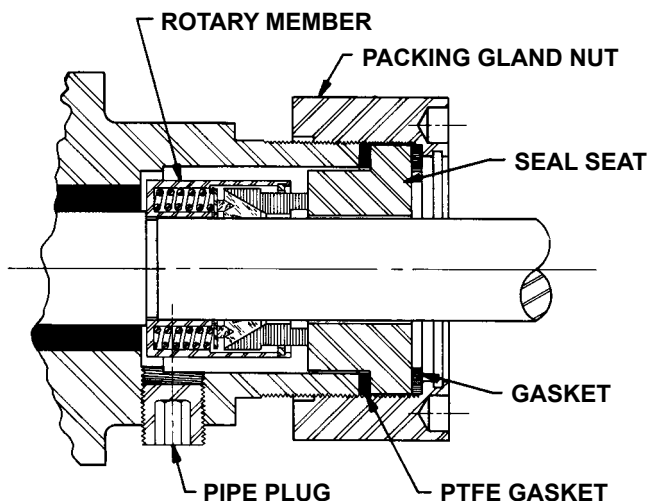

**FIGURE 4
6. **REMAINING DISASSEMBLY PROCEDURE** for the Series 724 packed pump. (Refer to Figure 4).
### 3. REASSEMBLY OF SERIES 724 (Refer to Fig. 4).